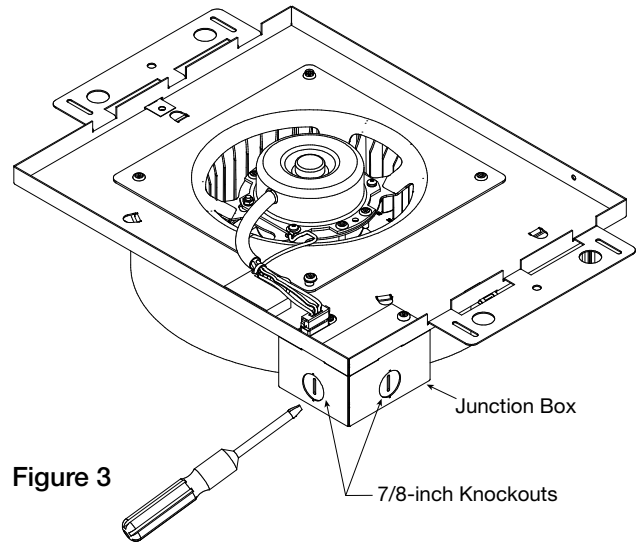

Figure 3
4. Remove a wiring knockout from junction box by bending it back and forth to break tabs. See Figure 3.